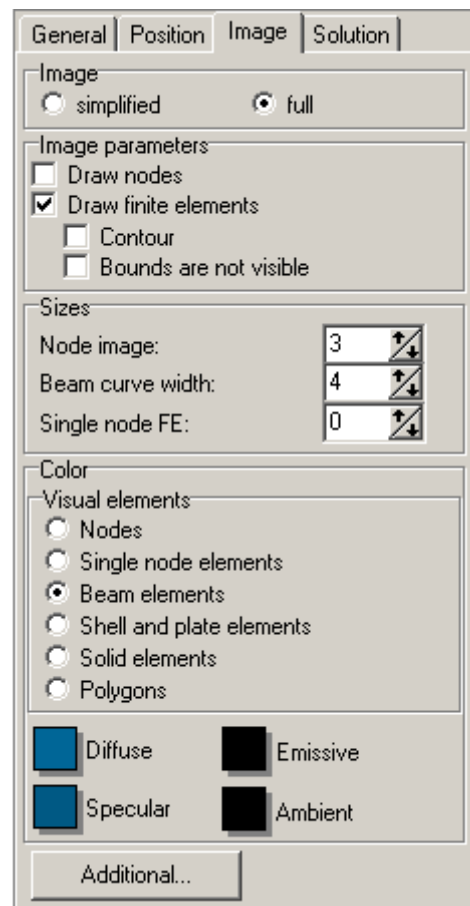

Figure 2.8
8. Set the rest parameters according to the Fig. 2.8.